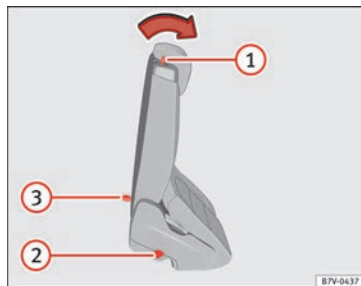

Fig. 157 Second row of seats: convenient entry function controls
- Push the lever »» Fig. 157 ① forwards and fold the backrest of the rear seat. This seat folds forward completely »» ⚠ and can still be moved further forward.
- Make sure that the rear seat is securely engaged so that the seat belts can provide proper protection in the rear seats. The red mark »» Fig. 157 ② should no longer be visible »» ⚠ in **Folding down rear seats to create load space** on page 156.
- If the lever »» Fig. 157 ① does not work, e.g. after an accident, the seats on the second row can be folded forwards from the third row to allow vehicle occupants of the third row of seats to get out of the vehicle »» ⚠.
- Pull the handle »» Fig. 157 ③ back and fold the backrest of the rear seat. The complete rear seat folds forward »» ⚠.
- A red mark on the side of the seat »» Fig. 157 ② indicates that the seat backrest is not engaged. The mark is no longer visible when it is correctly engaged.